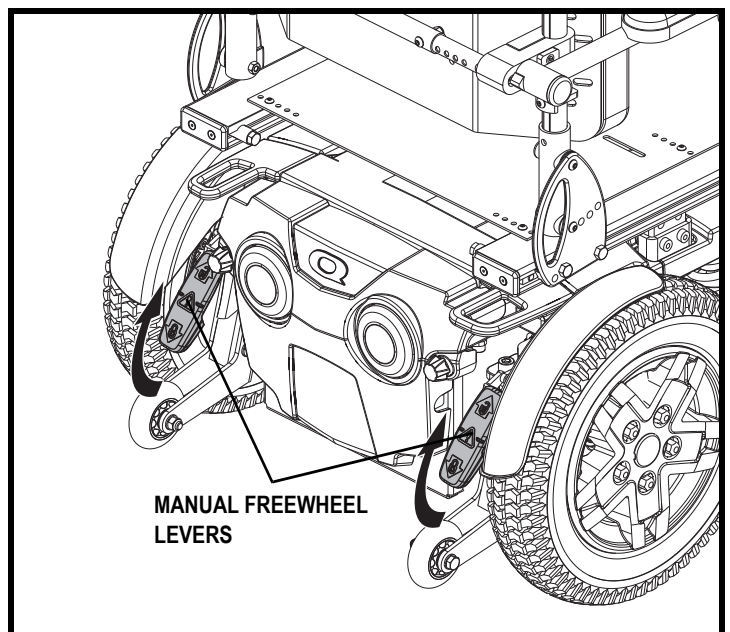

Figure 10. Freewheel Mode (Drive Disengaged)
3. Pull the two levers upward to disengage the drive motors (freewheel mode). See figure 10.